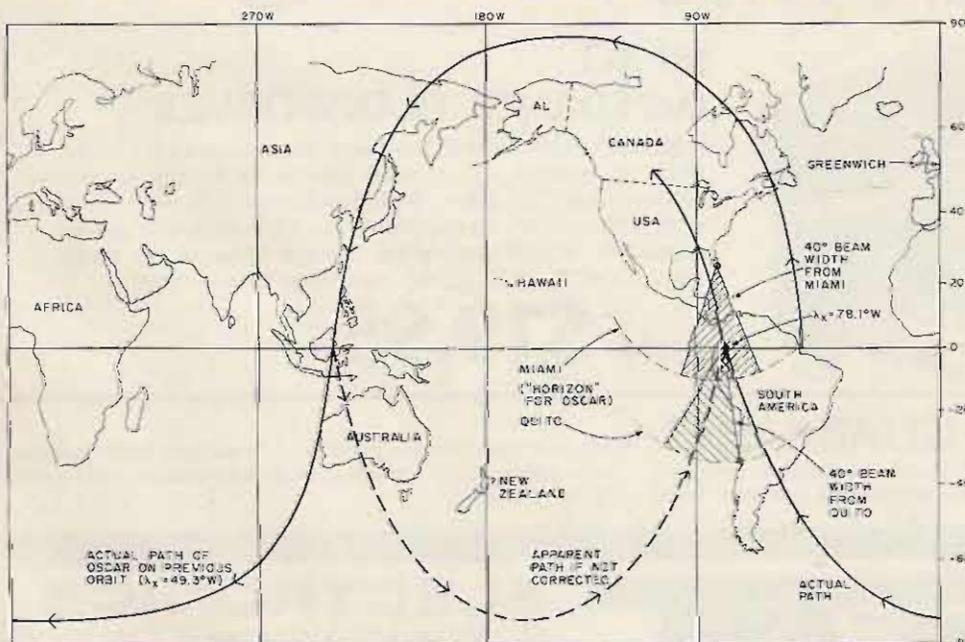

Fig. 1. OSCAR paths, actual and apparent, on the Earth.
Let's examine item 5 in more detail. Fig. 1 shows the actual OSCAR track (solid line) for the example given later where OSCAR crosses the equator northbound at 78.1° West, and the apparent track in the Southern Hemisphere (dotted line) of the track for the preceding orbit which results in the 78.1° crossing. The usual formulas (which are good only in the Northern Hemisphere) will make OSCAR apparently change course as soon as it crosses the equator. Thus, instead of continuing in a southwesterly direction after crossing the equator at
Well, if this is really so, why haven't we hams in the United States noticed this before? Why do the formulas seem to work okay for us? The answer is that we are so far from the equator, and our antennas have broad enough beamwidths (approximately 40° wide at the "3 dB down" points for a so-called 13 dB beam), that the apparent "dogleg" in the path is entirely contained within our beam coverage and goes unnoticed. I have shown a 40° beam pointed from Miami toward the 78.1° W. crossing in Fig. 1. Notice how it encompasses both the true and apparent paths of OSCAR within the "OSCAR horizon" of Miami, shown as the dotted arc centered on Miami. And, of course, the effect is diminished as we are even further north, because OSCAR is in range below the equator for a shorter distance (or not at all), and the antenna beam covers a large area below the equator.
pick up the approaching OSCAR, instead of the correct southeasterly direction. Although his antenna may be 40° wide, it is not wide enough to include the direction of OSCAR, as shown by Fig. 1.
When OSCAR is in the Northern Hemisphere, but approaching the equator, it is a trifle less than 1/2 P, since it is the time since OSCAR crossed the equator going north, and P is the time of the full orbit. Thus 360t/P will be less than 180 (let's say 176.9, for example). The cosine of 176.9° is -.99854. L_S, the latitude of OSCAR from equation 1, is about 3°; its cosine is .99863. The result is the inverse cosine of -.99991 or 179.2°. Now, let the OSCAR go an equal distance past the equator so that 360t/P is 183.1°. The calculator computes the cosine as -.99854 (the same as for 176.9); the latitude is now about 3° S. or -3°, whose cosine is .99863 (the same as for 3°). The result is that the calculator give you the same inverse cosine of -.99991 = 179.2° as before. After all, how can the calculator know that you want an answer greater than 180°? Thus, the OSCAR seems to be backtracking in an easterly direction as it heads south, and gives the apparent track as shown in Fig. 1.